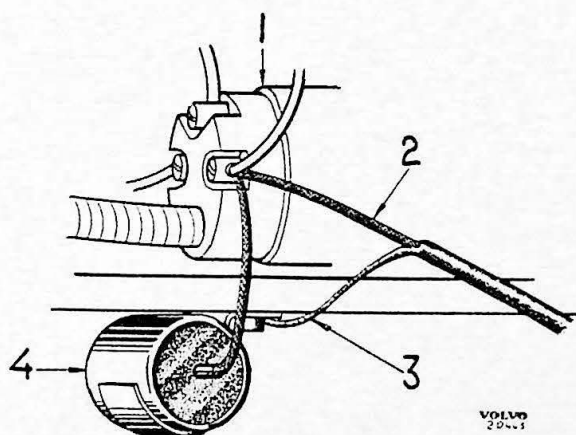

Fig. 7.
1. A condenser (4, Fig. 7) of about 3 microfarads is connected between the screw on the ignition switch (1), where the radio cable (2) is connected, and earth (car body). (3) is the cable screening sleeve. The normal connecting points for this condenser are the feed side of the ignition coil and earth. This cannot be done in this case since the ignition switch and the ignition coil are connected by means of a screened cable.